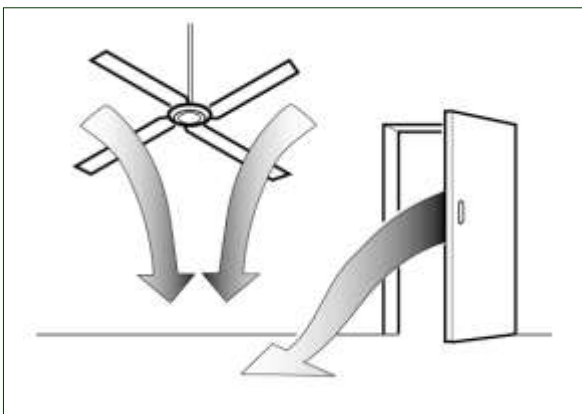

Fig. 2
- Do not install the cabinet where it is exposed to drafts from ventilators or open doors (fig. 2).